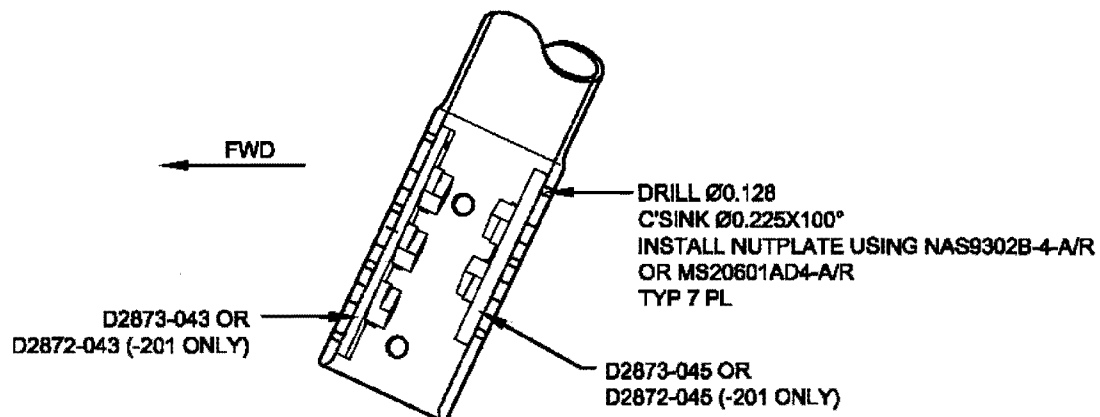

Figure 32-1 – Nut Plate Installation for D206-667-101/-103/-201/-203 or D407-667-105/-205 crosstubes at CHG 001
- 32.2.2 If Dart skidtubes are being replaced with Bell/AAI skidtubes for installation with D206-667-101/-103/-201/-203 or D407-667-105/-205 crosstubes at CHG 001 the fwd/aft holes will have to be drilled into the crosstube and nut plates will have to be installed prior to installing the fasteners as shown in Figure 32-1. To drill these holes, insert crosstube into both skidtube saddles. Pin the saddles to the crosstubes using 2 of the AN5 bolts provided per cuff. Transfer drill $\varnothing 0.313$ holes on the fwd and aft sides of the saddle to the crosstube. Open holes to $\varnothing 0.323 \pm \begin{smallmatrix} 0.005 \\ 0.000 \end{smallmatrix}$. Remove crosstube from saddles and deburr drilled holes.